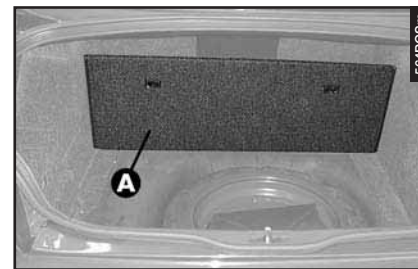

fig. 1
- Fold forward the boot mat (**A-fig. 1**).
– Fold back the boot mat (**A-fig. 1**).